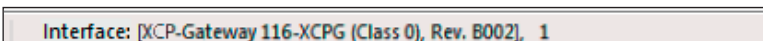

Fig. 6-18: Status bar: "XCP Gateway" interface
- ☞ If an interface is displayed in the status bar (Fig. 6-18), continue with chapter 6.3.3.4 "Creating a new configuration file".